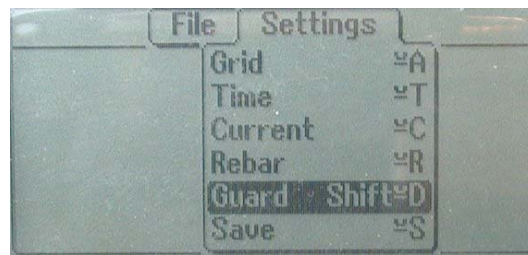

Fig .14. Settings display, guard
- a. Press the *Menu* key. Fig. 14.